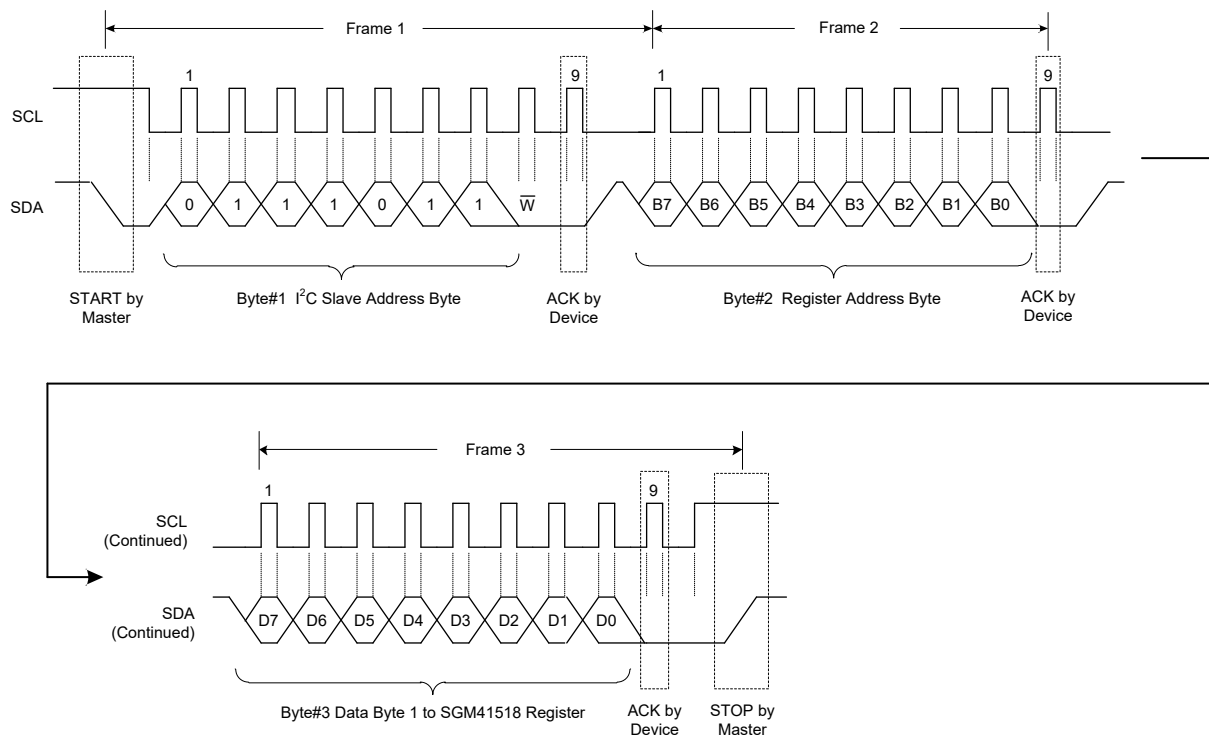

Figure 15. A Single Write Transaction
**WRITE:** If the master wants to write in the register, the third byte can be written directly as shown in Figure 15 for a single write data transfer. After receiving the ACK, master may issue a STOP condition to end the transaction or send the next register data, which will be written to the next address in a slave as multi-write. A STOP is needed after sending the last data.